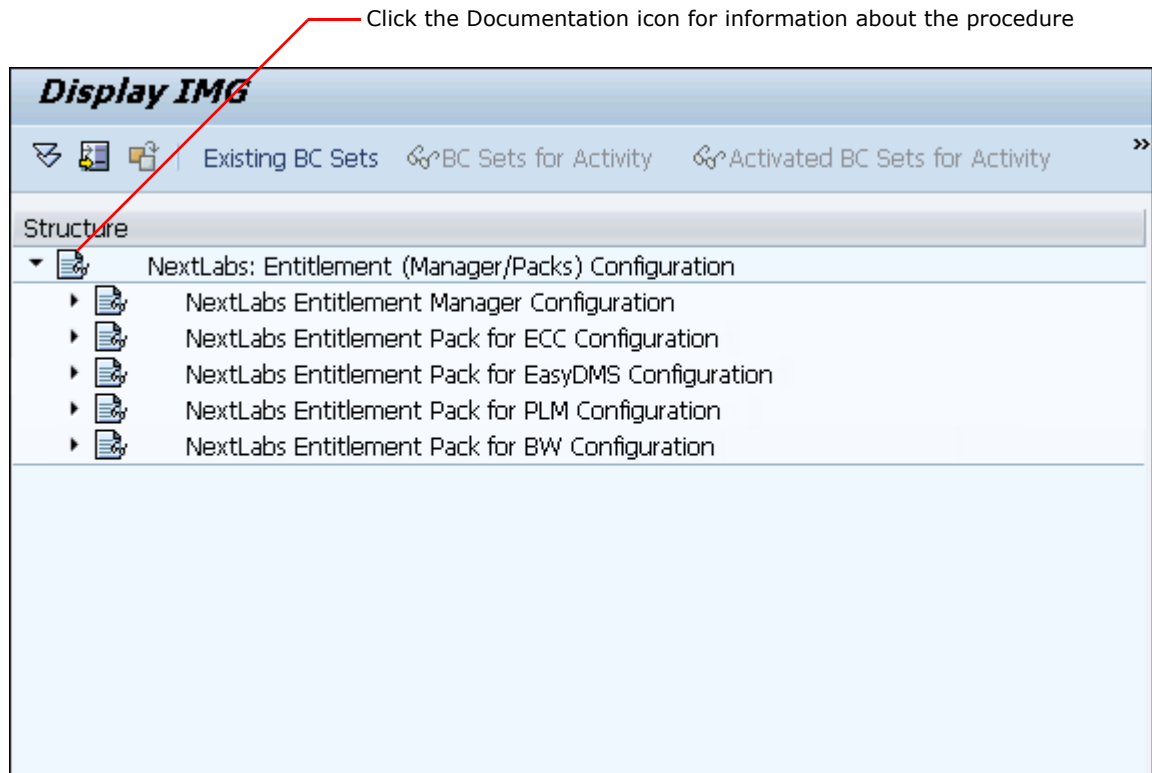

Figure 4-6: Using `/NEXTLABS/CONFIG` to access the configuration tool
- Enter transaction/NEXTLABS/CONFIG. This transaction shows the installed NextLabs components only, as shown in Figure 4-6.